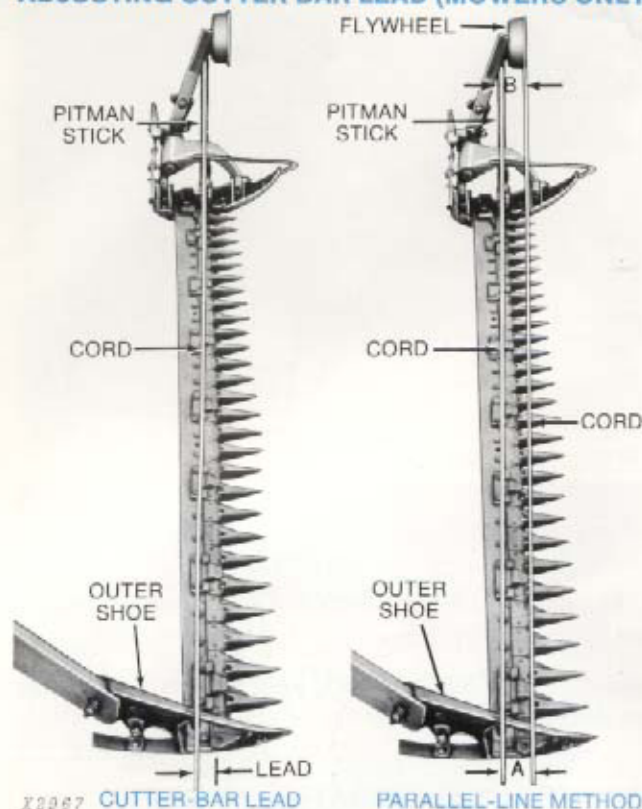

Fig. 25 — Cutter Bar Lead
However, mowers have only one end of the cutter bar connected to a solid object. For this reason, when the mower is not in operation, the outer end should be ahead of the inner end of the cutter bar (Fig. 25). This is called **cutter bar lead**. Cutter bar lead is divided into **primary lead** and **secondary lead**.
4. Find a guideline from which you can measure the lead (Fig. 25).
One of two basic methods for establishing a guideline is called **parallel-line method** (Fig. 25). Stretch a cord from the pitman bearing across the cutter bar while making sure that the cord is parallel with the pitman. Secure the cord at both ends.